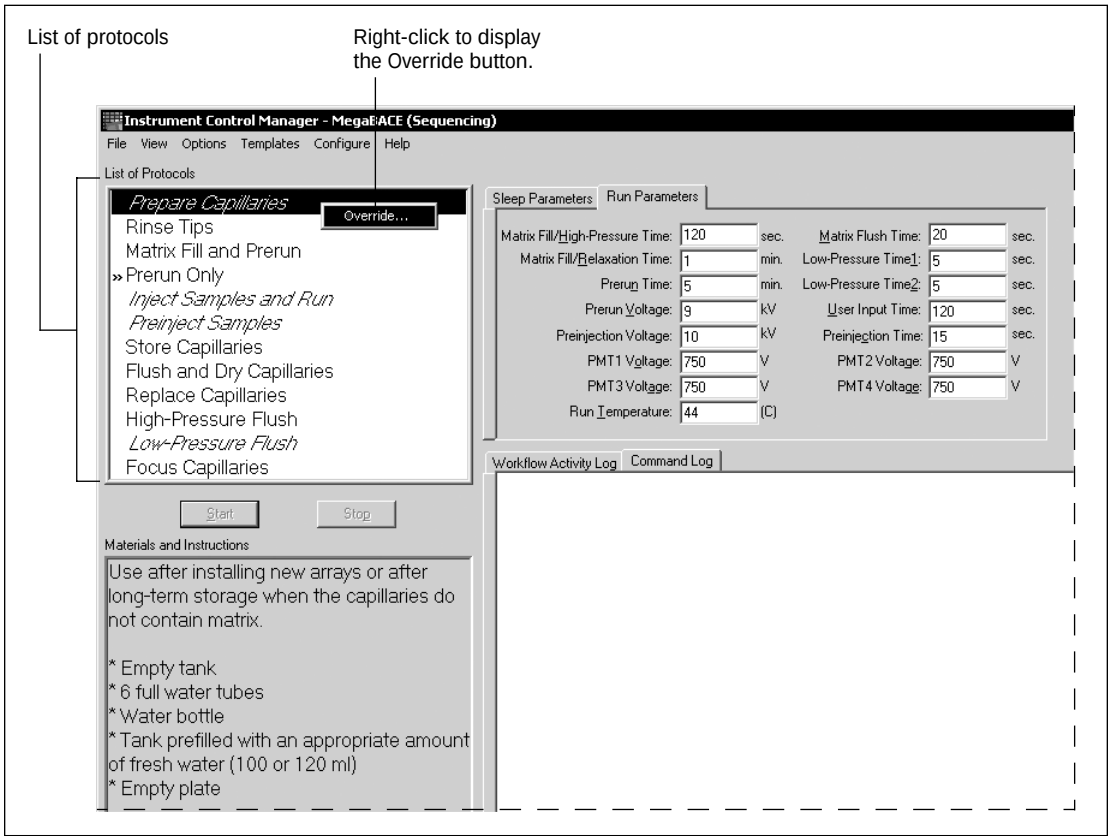

Figure 14-1. The List of Protocols in the Instrument Control window.
In a typical operation, the software selects the next protocol in the workflow. You might need to use a protocol that is different from the one selected in the List of Protocols in the Instrument Control window (figure 14-1).
1. In the Instrument Control window, select the protocol you want to run, and click the **right mouse button**. The Override button appears (figure 14-1).
4. Click **OK** to run all the commands for the selected protocol. The window closes. In the Instrument Control window (figure 14-1), the selected protocol name appears bold to show that it is running.
1. With the protocol selected, click the **right mouse button**. The Override button appears (figure 14-1).
In the Instrument Control window (figure 14-1), the selected protocol name appears bold to show that it is running.